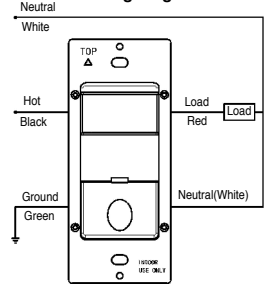

Figure 2
4. Connect lead wires as shown in WIRING DIAGRAM (see Figure 2): Black lead to Line (Hot), Red lead to Load wire, White lead to Neutral wire, Green lead to Ground.